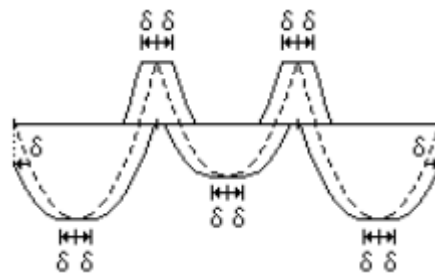

Figure 33 : Shifted moment-line
1) When determining the reinforcement section at the place of the change of section the program takes the fact into consideration that the diagram of moments has to be shifted over a distance δ (Figure 33). This means that the reinforcement section required at a certain place, is the maximum within a zone with length 2δ (centralized around the considered point) of the reinforcement sections calculated from the unshifted diagram of moments.